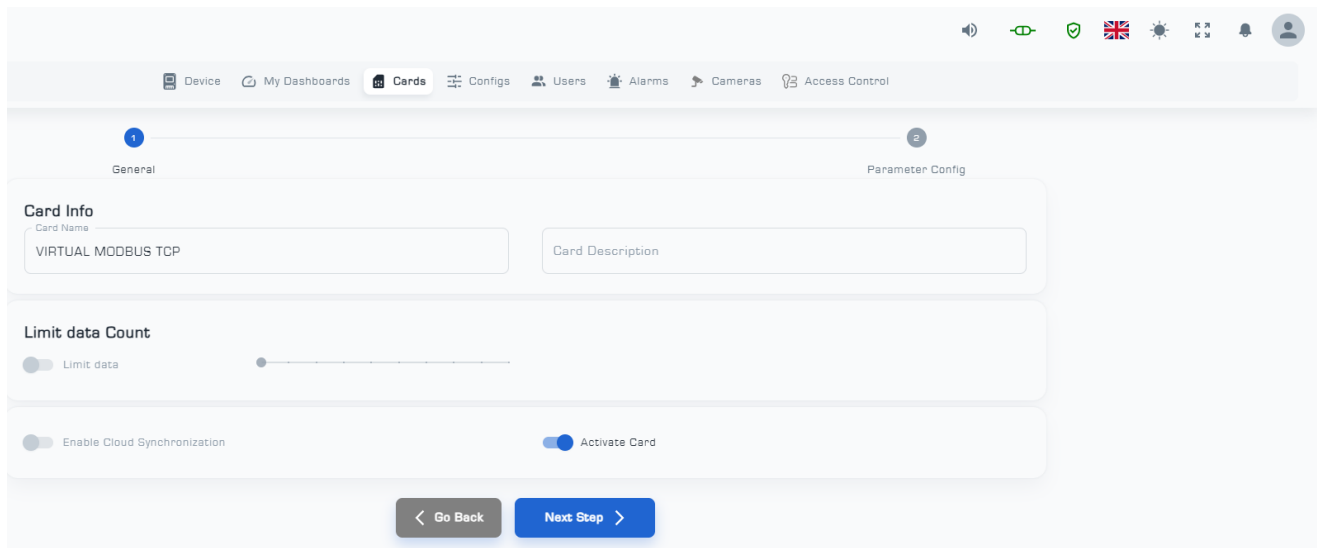

Figure 36: First page of settings on the virtual card
(3) Fill in the 'Card Name' and 'Card Description'1 fields (Figure 36).